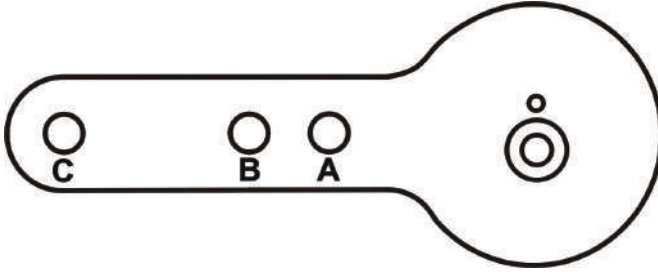

Figure 9 - Lever for Masoneilan Model 87/88 Multi-stroke Actuator
3. Select mounting hole A, B, C or D for the stroke of the valve. For example, hole B is shown in Figure 9 on page 28 for a size 10 actuator with 1.0" stroke. Unless otherwise specified, the SVI II ESD mounting assumes that the actuator is in the normal upright position. The mounting hole in the slotted opening of the mounting bracket must be left when facing the actuator, with the actuator in the upright position.
5. Attach the right hand threaded rod end to the SVI II ESD lever using a 1/4 - 20 x 1" cap screw and nut as shown. The lever hole position to be used depends upon the specific valve stroke. Refer to Figure 9 on page 28 and the Reciprocating Valve Linkage Selection, Table 3 on page 23.